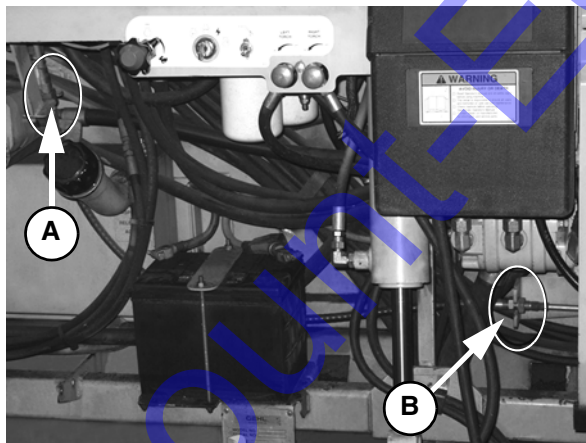

Fig. 46 - Cable Connections
2. Locate cable connection (A) or (B) (Fig. 46).
**NOTICE:** Only perform step 4 at ONE cable connection (A) or (B). DO NOT perform step 4 at BOTH cable connections (A) and (B).
3. Locate two nuts, one on each side of a bracket, as shown (Fig. 46).